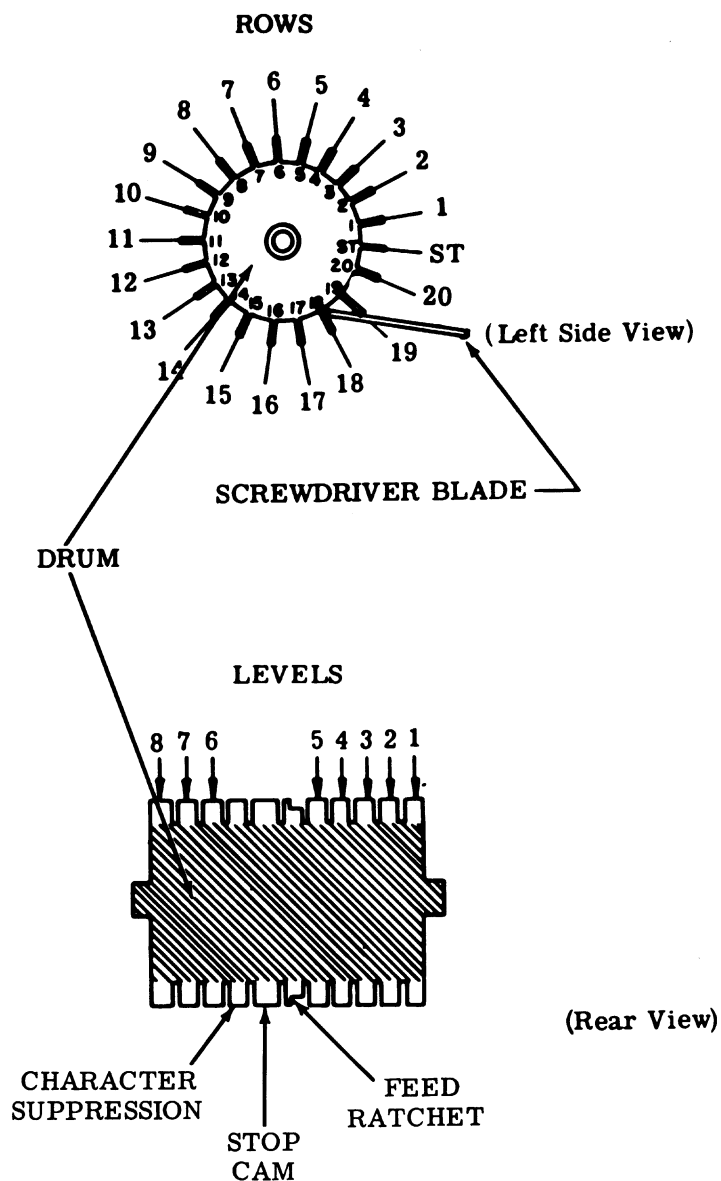

Figure 7 - Answer-Back Drum
- (c) A particular character is coded by either retaining or removing tines within a row, as illustrated in Figure 7. A tine may be removed by either of the two following methods:
**Method 1:** Place the end of a screwdriver blade at the base of a tine in the row previously coded. Press the side of the blade against the top of the unwanted tine until the tine breaks off. Figure 7 illustrates this method — pressure applied to base of row no. 18 and against top of adjacent tine being removed from row no. 19.